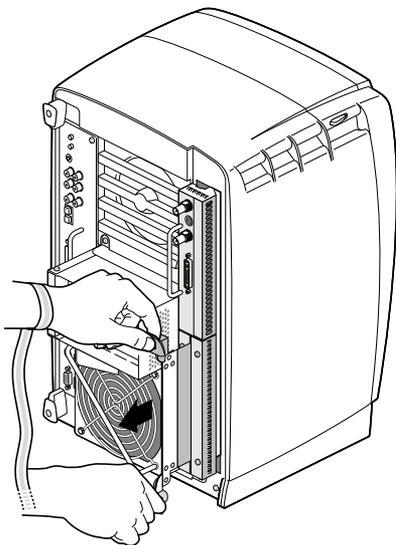

Figure 1-7 Releasing the XIO Tri-Module
2. Grasp the sliding handles and pull until the sliding portion of the XIO Tri-Module protrudes about an inch from the chassis, as shown in Figure 1-7.